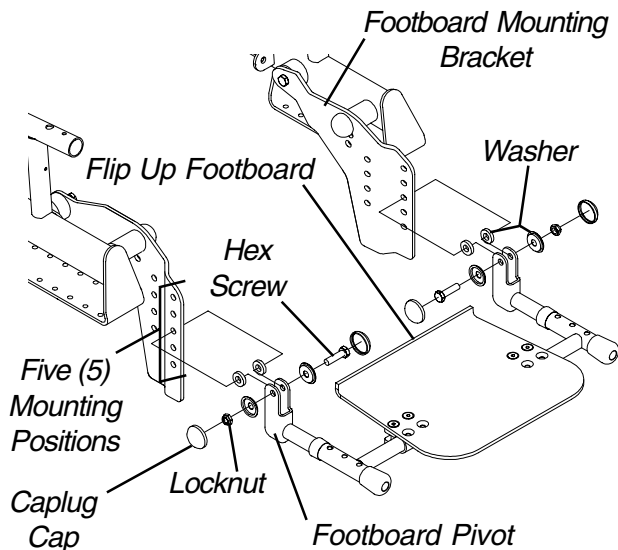

FIGURE 4 - ADJUSTING FLIP-UP REMOVABLE FOOTBOARD - HEIGHT
Height (FIGURE 4)
- If necessary, remove the four (4) caplug caps.
- Remove the hex screw, two (2) spacers, washers and locknut that secure one (1) of the footboard pivots to the footboard mounting bracket.
- Move the footboard pivots to one (1) of five (5) positions.
- Resecure the two (2) footboard pivots to the footboard mounting brackets with the hex screws, spacers, washers and locknuts. Refer to FIGURE 4 for the correct hardware orientation.
- Torque the two (2) hex screws to 156in/lbs. and back off the hex screws 1/8-1/4 of a revolution.
- If necessary, reinstall the four (4) caplug caps.